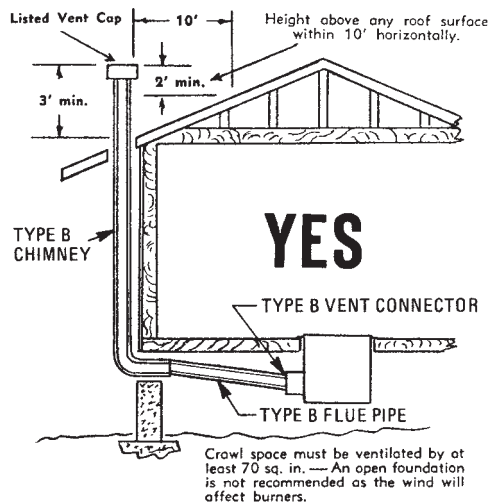

Figure 1
1. Flue pipe **MUST** always have an upward slope (1/4 inch per foot minimum). See **Figure 1**.
2. If there is no chimney, you will have to run a flue pipe from the furnace, up to and above the house roof. See Figure 1. Select a location permitting the most direct run. Try going up to the roof through a closet. Remember that the flue pipe must slope upwards at least 1/4 of an inch for each foot and you may find floor joints in our path, so it is important to plan the run carefully. See Figure 8.